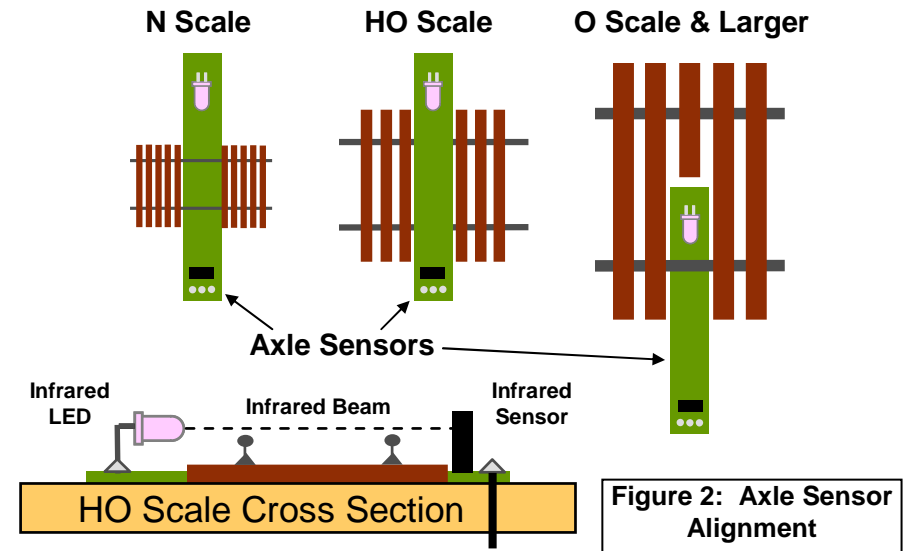

Figure 2: Axle Sensor Alignment
- a. Refer to **Figure 2** for correct Axle Sensor positioning for your scale.
- b. Refer to **Figure 2** for correct Axle Sensor positioning for your scale.
- d. Drill a 1/4" hole in the roadbed beneath the track and partially or completely across the rails as in **Figure 2**.
- 5. Align the LED to just clear the top of the rail as in the "HO Scale Cross Section" of **Figure 2**. Check that rail cars clear the Axle Sensor.
If axle count is not correct, check the alignment of the “W” Axle Sensor. The infrared beam should just clear the railhead as in **Figure 2**.
If you do not receive a speed or length report, check the alignment of the “S” Axle Sensor. The infrared beam should just clear the railhead as in **Figure 2**. Also check your wiring.